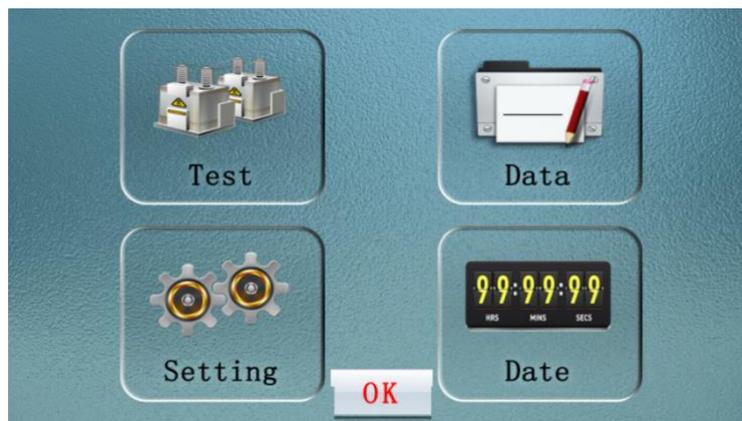
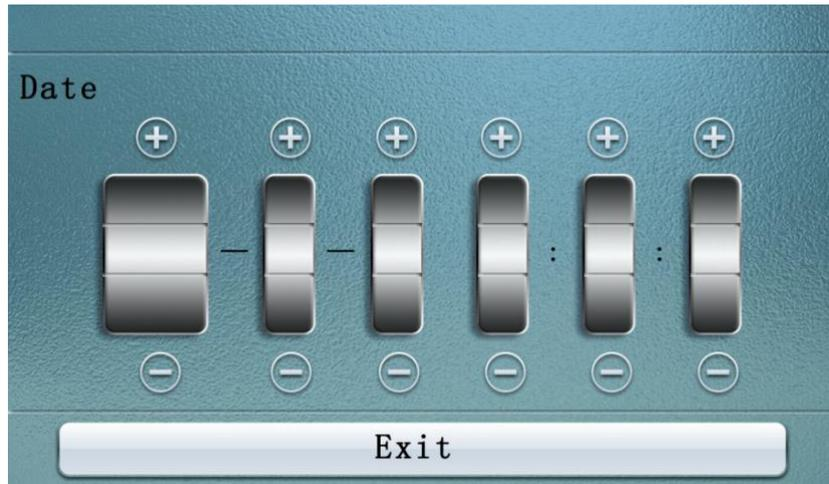

Figure 1
Figure 6
1、 The boot interface is shown in figure 1:
5、Click "parameter setting" in figure 1 to enter the "parameter setting" interface, as shown in figure 5:
6、Click "clock modification" in figure 1 to enter the clock modification interface, as shown in figure 6: